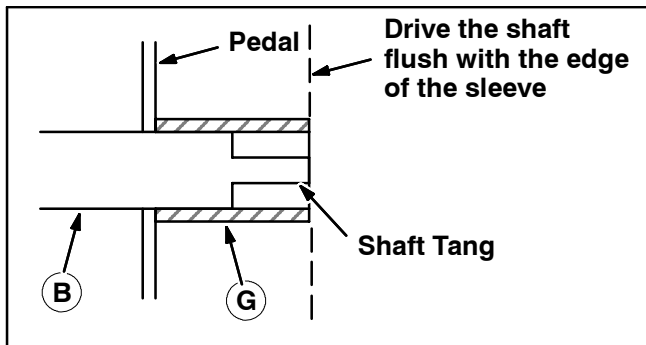

FIG. 10
12. Use the smaller sleeve (G) as a template by placing it over the tang end of the shaft. Use a rubber or plastic mallet to drive the pin into the side of the pedal until the tang is flush with the edge of the sleeve. Refer to Fig. 10.